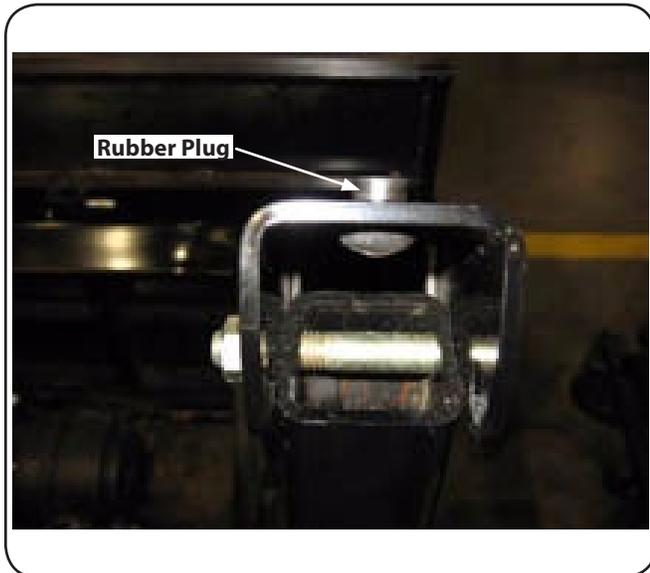

Figure 3-4
- Insert rubber plugs into each side of the upper ROPS. See Fig. 3-4.